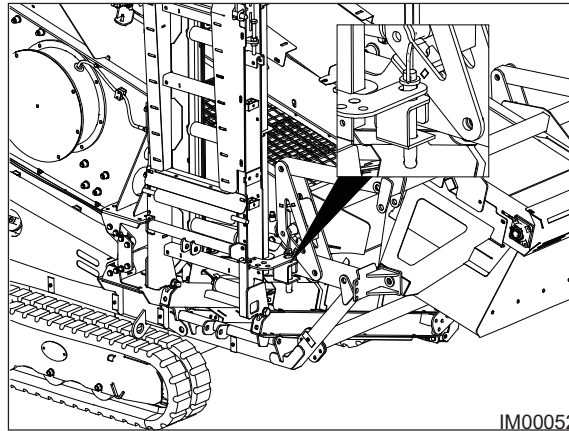

Fig: 7.7 - Transport Pin
2. Remove the Transport Pin (Fig: 7.7).